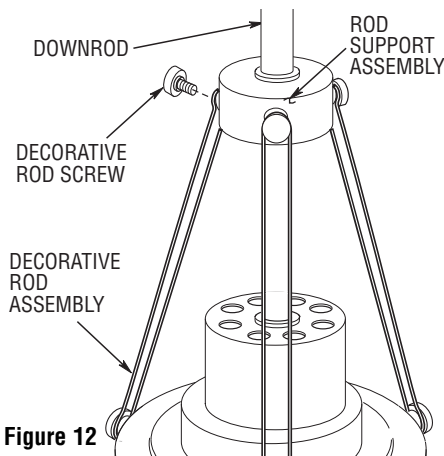

Figure 12
- 13. Slide the rod support assembly up the downrod until the threaded holes in the rod support align with the holes in the decorative rod assemblies (Figure 12). Secure the decorative rods to the rod support using three decorative rod screws; do not tighten the rod screws at this time.
- 14. Rotate the rod support assembly until the decorative rod assemblies are aligned vertically with the downrod (Figure 12). Hold the rod support in this position while tightening all six decorative rod screws securely.